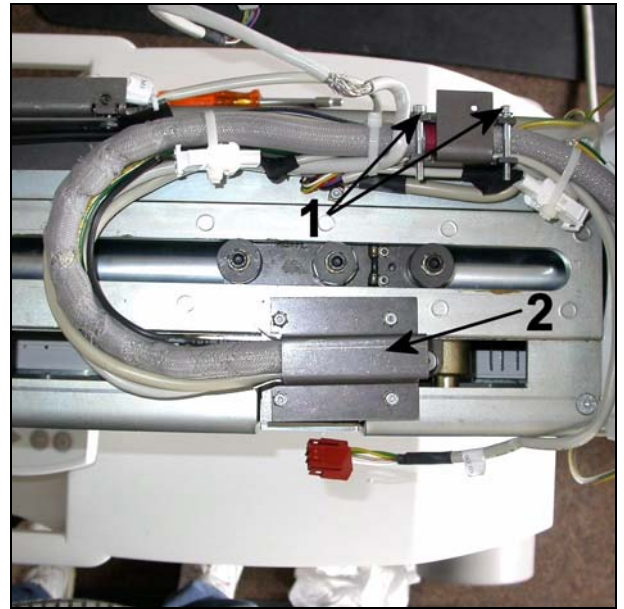

Fig. 18
- Unscrew the two cable guides, see (1/Fig. 18) and (2/Fig. 18).